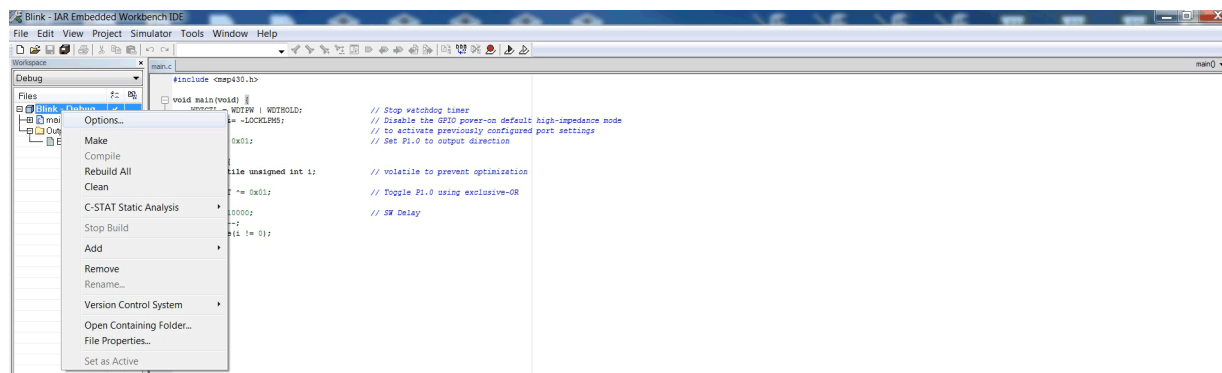

Figure 6. IAR – Project Options
1. Right click on the Project (the Blink example code is used in Figure 6), and select **Options**.